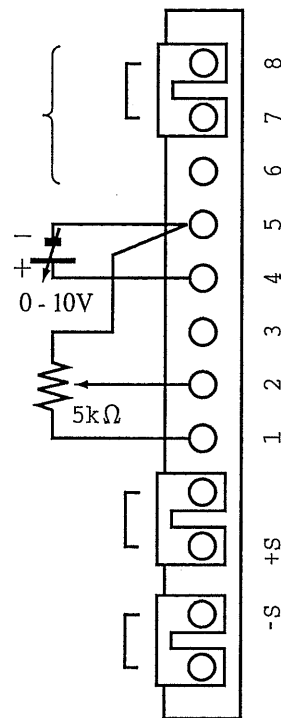

Figure 2.8.1 Remote Voltage Control of Constant Current Mode
6. Connect a 0-10 Volt DC source across Rear Panel Strip terminals 4 and 5 as shown in Figure 2.8.1.